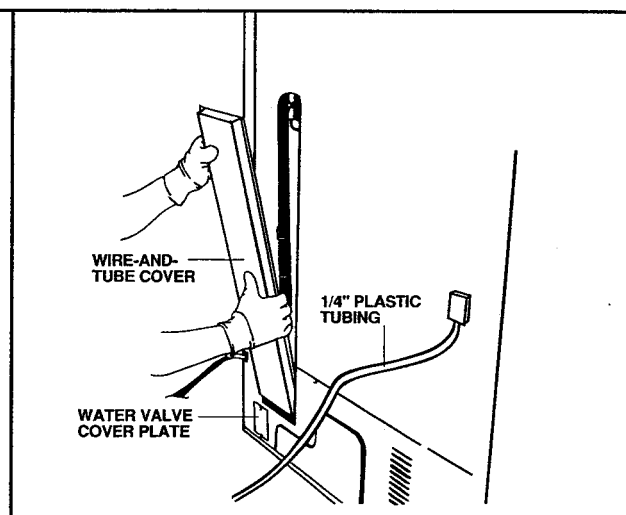

Figure 18
a. Remove and retain four hex screws and the vertical wire-and-tube cover from the exterior rear wall of the refrigerator. See Figure 18.
4. The plugs for the electrical connections to the water valve coil and terminal must be tightly seated into all terminals. Remove the vertical rear wire-and-tube cover from the refrigerator to check the connections. See Figures 18 and 22. *Replace the vertical rear wire-and-tube cover before returning the refrigerator to normal use. The refrigerator will not operate properly with any cover removed.*